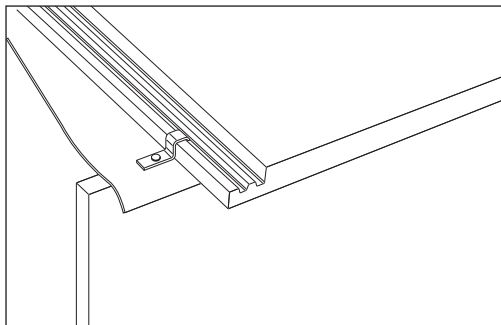

Fig 39 – Eaves clip
- Fix eaves course tiles with nail or purpose-made eaves clip nailed to top of fascia board (Fig 39).